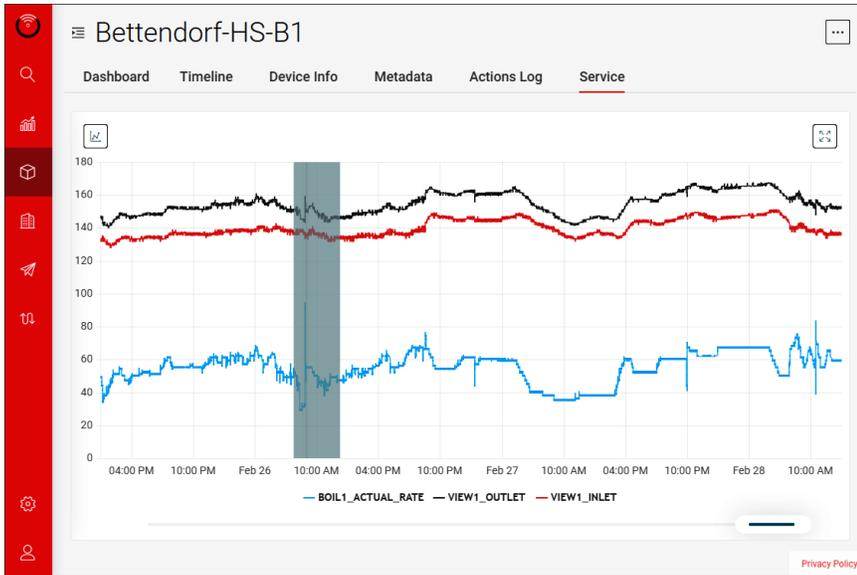

Figure 81. Time Frame Zoom
7. Click-and-hold a certain area on the graph to zoom in on a specific time frame. See **Figure 81**.